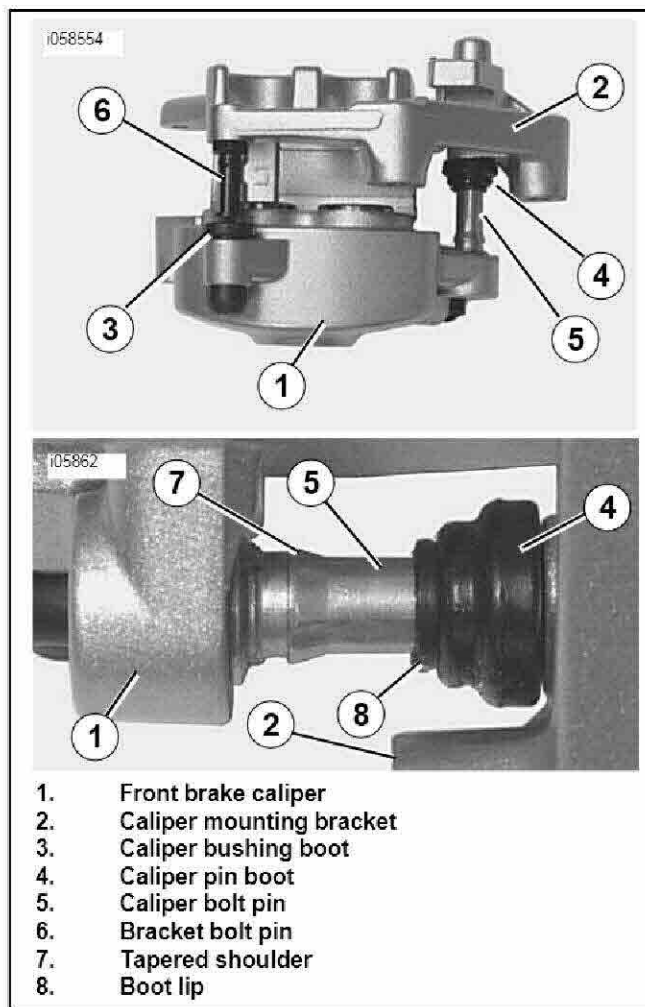

Figure 12. Assembling Front Brake Caliper and Mounting Bracket
2. See Figure 12. Apply G40M brake grease inside boot lip (8) to prevent sticking between boots (3, 4) and bolt pins (5, 6).
3. Assemble brake caliper and mounting bracket, carefully sliding bolt pins into boots. Slide brake caliper all the way onto mounting bracket until boot lips fit over tapered shoulders (7) of bolt pins.